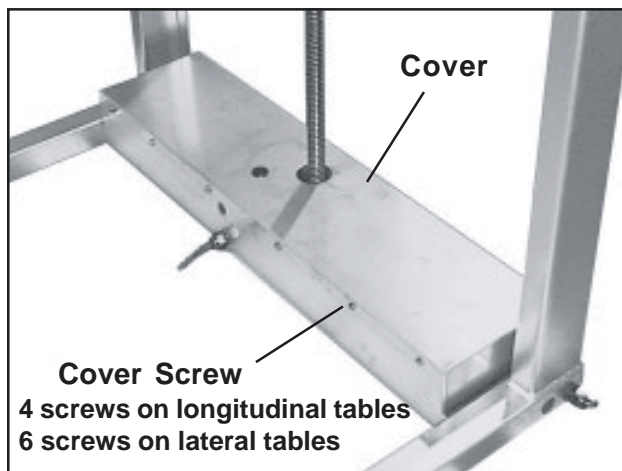

Figure 24. Utility Box Cover & Screws
4. With a Phillips screwdriver, remove the utility box cover screws (Figure 24).
18. Replace the utility box cover (Figure 24) and secure the cover with the screws removed earlier.
2. With a Phillips screwdriver, remove the utility box cover screws (Figure 24).